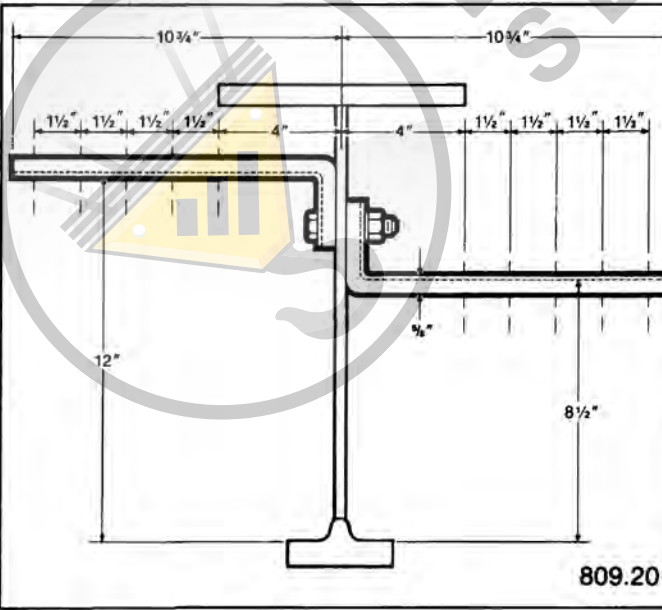

FIGURE 42
- 809.20 (Refer to Figure 42): For up to 12-wire (6-run) dual conductor bottom-entry electrification or 10-wire single conductor bottom-entry electrification at 12" above operating flange surface of 14" or greater depths of 604 *SuperTrack™ Girder* or 605 *TrojanTrack™ Girder*.